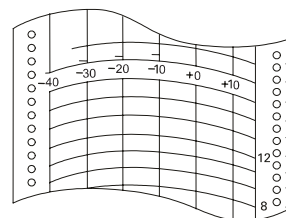

Fig. 1
1. The information on the temperature recording chart is shown in Fig. 1.